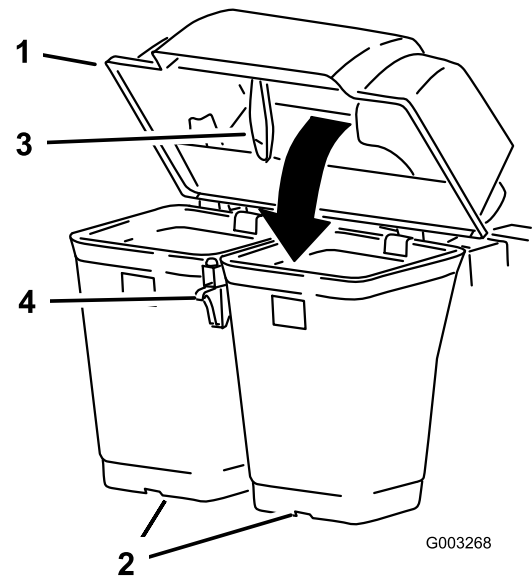
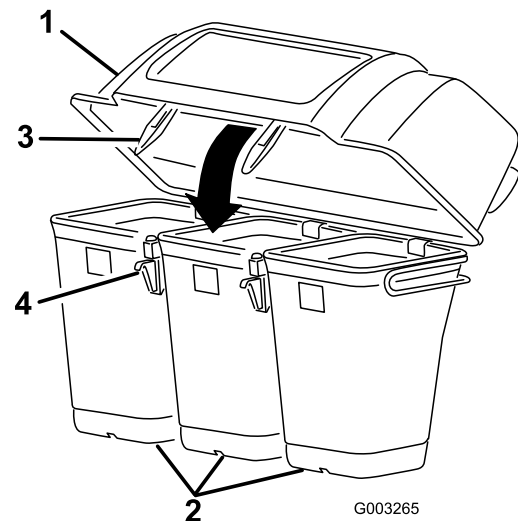

Figure 10
Figure 11
- Lower the bagger hood over the bags (Figure 10 or Figure 11).